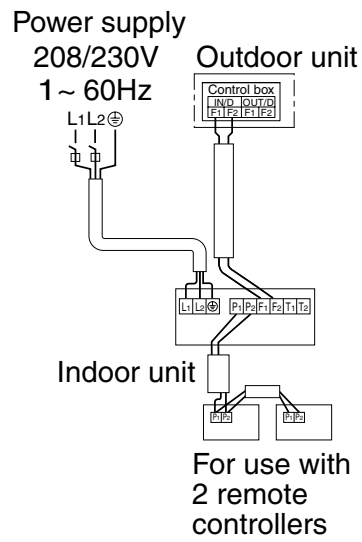

Fig. 30
(3) Remove the control box cover
(4) **Add remote control 2 (slave) to the terminal block for remote controller (P1, P2) in the control box. (There is no polarity.) (Refer to Fig. 30 and 8-3.)**